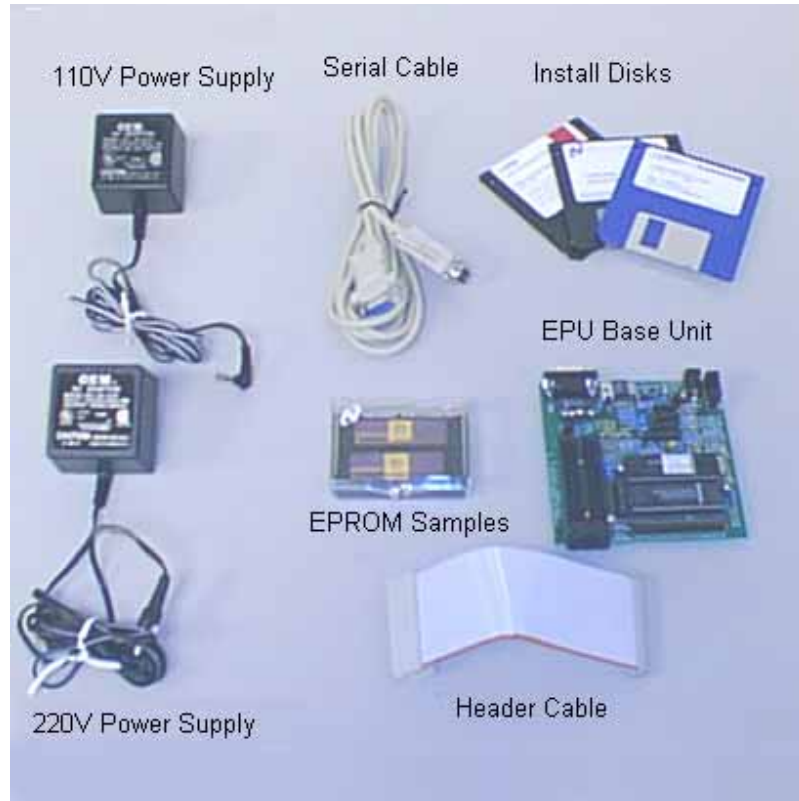

Figure 2.
1. Begin by identifying all the parts of the system. Locate the serial connection cable, base unit, a power supply (there should be two for the EPU), and a 40 pin ribbon cable with a header. The setup should look like Fig. 2.